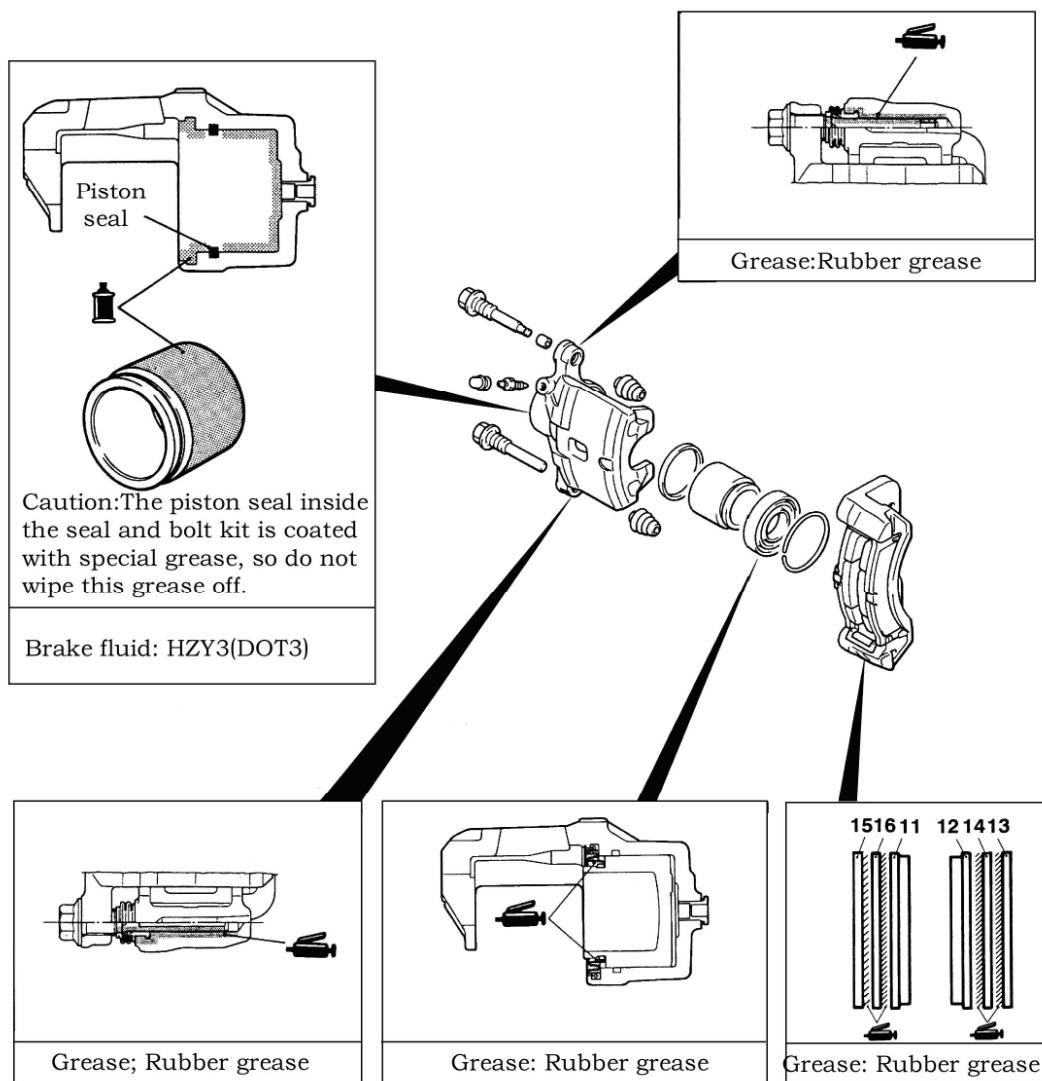

Fig. 16-37
4) Lubrication points see Fig.16-37.